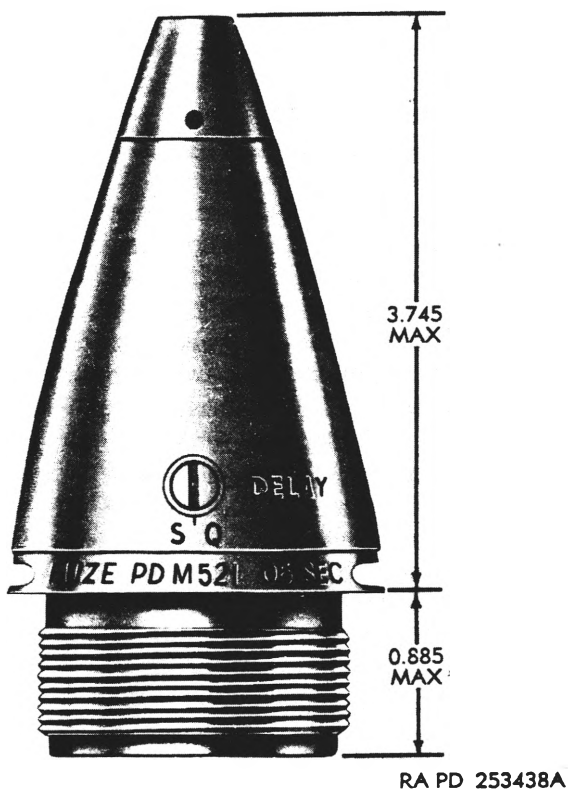

Figure 34. Fuze, point detonating: M521 (T247).
*a. General.* This fuze (fig. 34) is an impact-type fuze, similar to the fuze M51A5 described in paragraph 42 except that it does not have a booster. The threaded fuze base (2-inch thread) is assembled directly into the projectile.